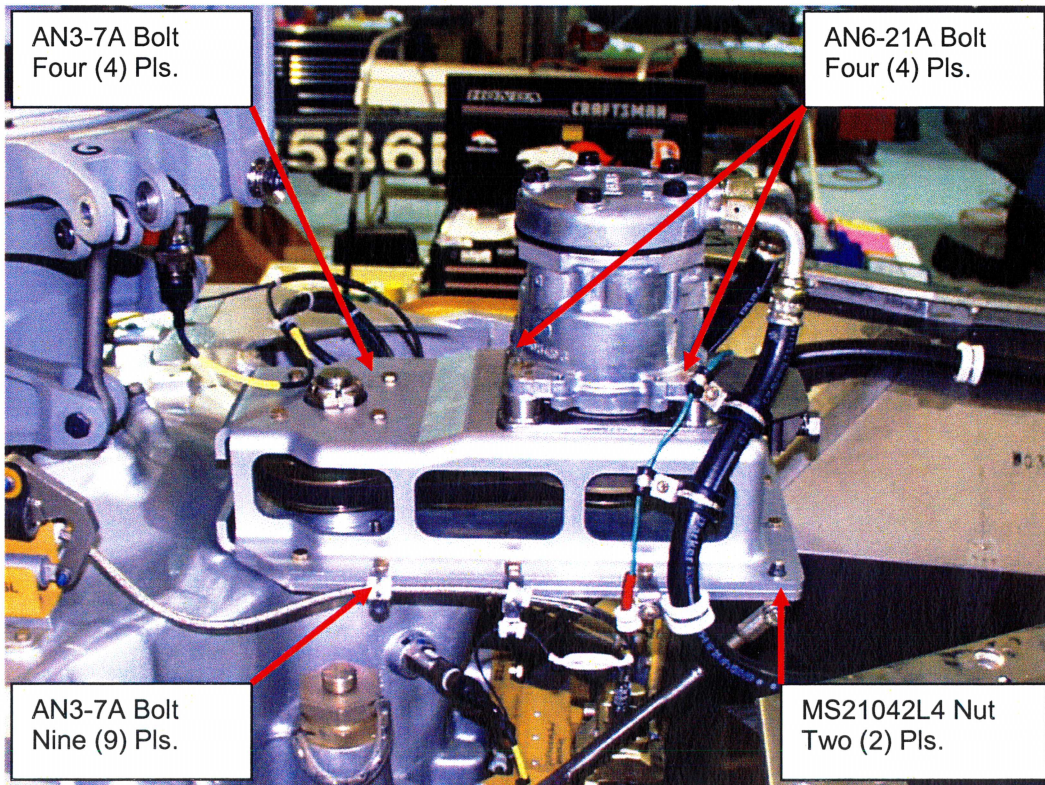

Figure 1-2
3. Loosen the four (4), AN6-21A bolts that secure the base of the EC135-3040-1 Compressor Assembly to the top of the Compressor mount (See figure 1-2)
5. Remove the four (4), AN3-7A bolts & NAS1149F0332P Washers which attach the EC135-3010-2 Bearing Retainer Assy. to the Upper compressor mount assembly. (See figure 1-2)
6. Remove the nine (9), AN3-7A Bolts & NAS1149F0332P Washers from the upper compressor mount assembly. (See figure 1-2)
7. Remove the two (2), MS21042L4 Nuts & NAS1149F0432P Washers from the aft outboard support studs. (See figure 1-2)